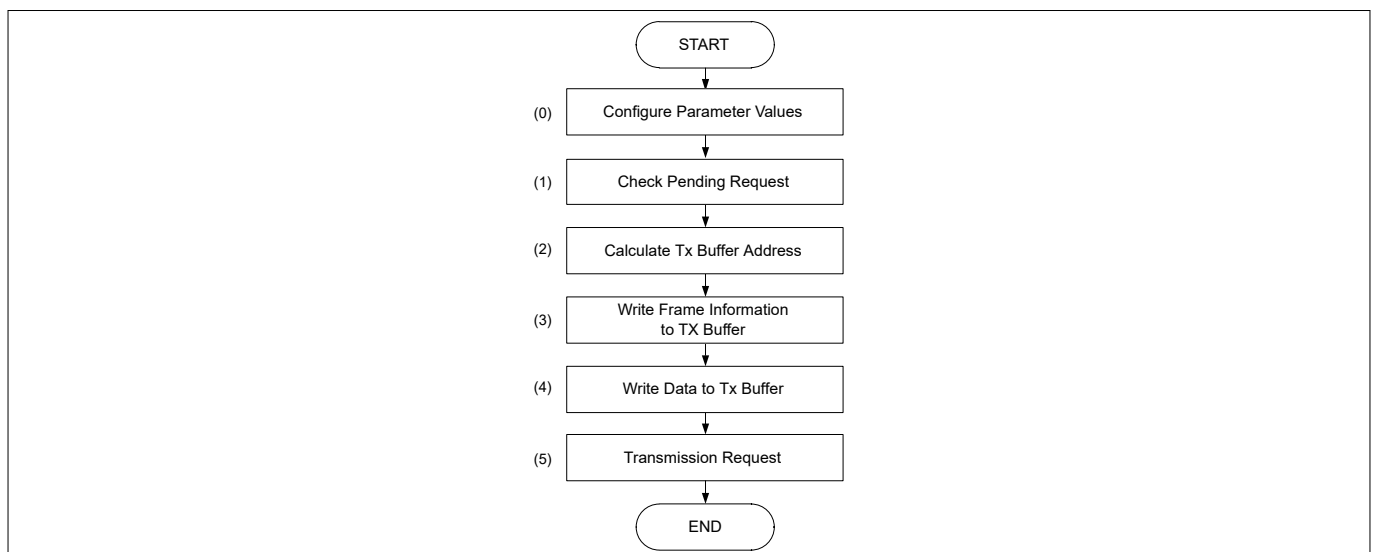

Figure 6 Example of Message Transmission Flow
Figure 6 is an example of message transmission flow. This example does not use the Tx Interrupt. In this flow, (0) is performed in the configuration part, and (1) to (5) are performed in the driver part.